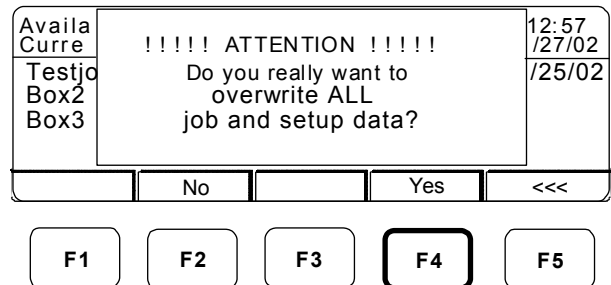

Figure 14-27.
4. When the second warning message displays (Figure 14-27), press F4 to confirm that you want to overwrite ALL job and setup data.